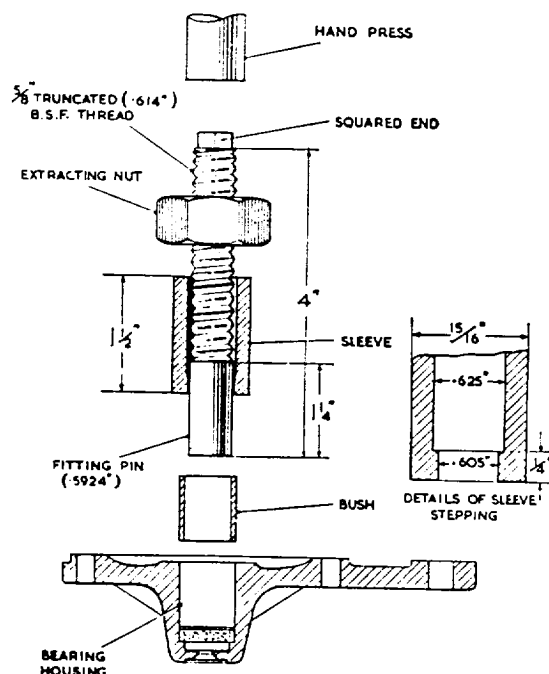

Fig. Q.6.
3. Insert the felt ring and felt ring retainer in the bearing housing, then press the new bearing bush into the end bracket, using a self-extracting tool of the type and in the manner shown in Fig. Q.6 the fitting pin or mandrel portion being of 0.5924 in (15.05 mm) diameter and highly polished. To withdraw the pin after pressing the bush fully home, turn the nut against the sleeve while gripping the squared end of the fitting pin. Porous bronze bushes must not be opened out after fitting, or the porosity of the bush may be impaired.